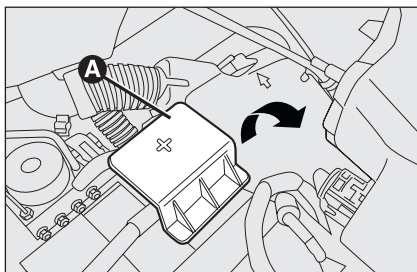

fig. 47
- ☐ remove the lid **A-fig. 47** protecting the positive pole of the battery by pulling it up;